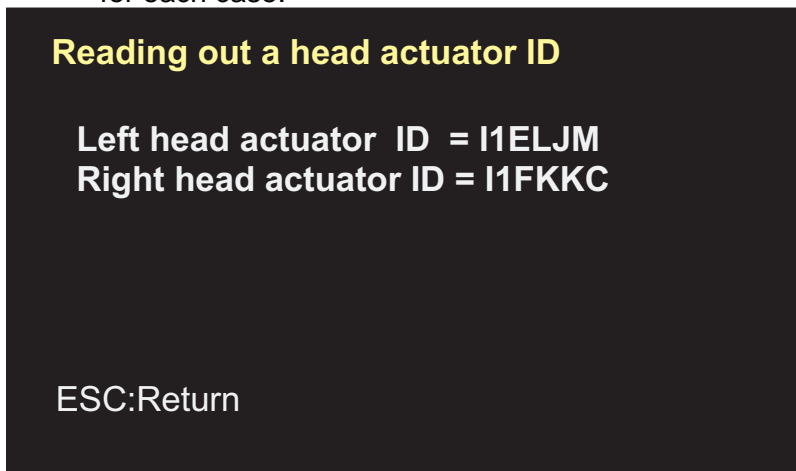

Figure 5-12. Checking Present Data
- Step12. In case of selecting "Checking a present data", make a note of each right and left head ID, as it is shown in the figure5-12. Then, press ESC key and return to the previous screen. Select "Changing a data" and write ID, which you made a note of it, after replacing C228 DRV board.